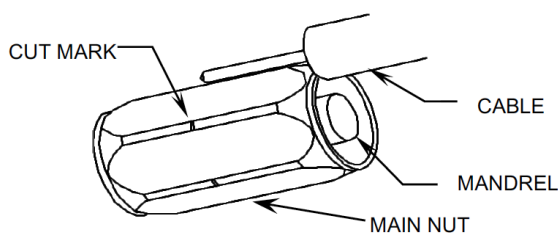
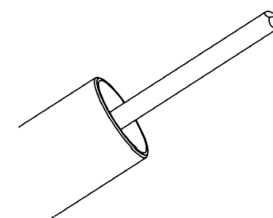

Fig. 4
Fig. 5
4. Verify cable center conductor length by using the CUT MARK on the connectors MAIN NUT as shown in Figure 4. Using diagonal cutters, make a cut half way through center conductor then rotate cutters 90° and complete the cut to give a pencil type point as shown in Figure 5.